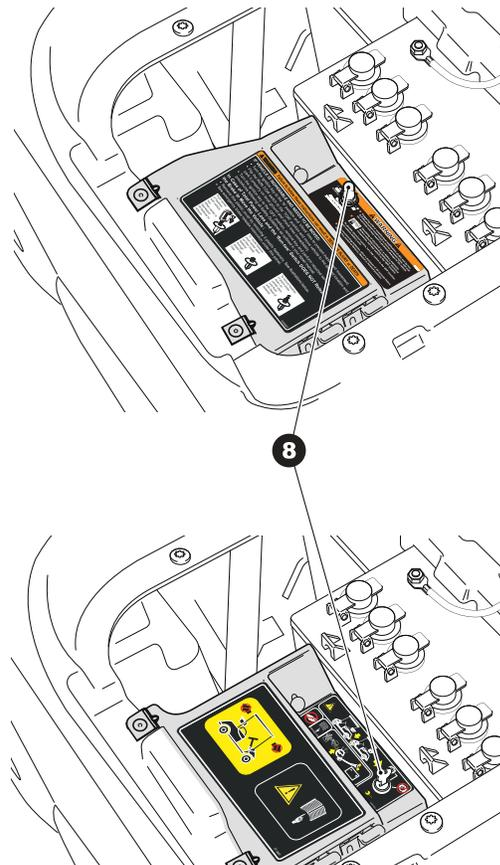

Fig. 5 Run/Tow Switch
| Fig. 5 Run Tow Switch..... | A - 2 |
The run/tow switch (8) is located under the seat on the passenger side of the vehicle (Ref. Fig. 5).